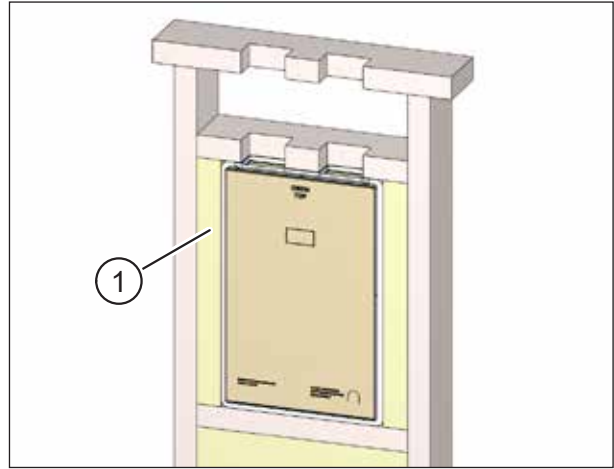

Fig. 54: Filling gaps around the wall box with insulating material
- Fill all gaps between the wall box and frame construction fully with insulating material (item 1 in Fig. 54) or using another suitable filling material. Be careful not to block the extract air and supply air openings at the top of the wall box.